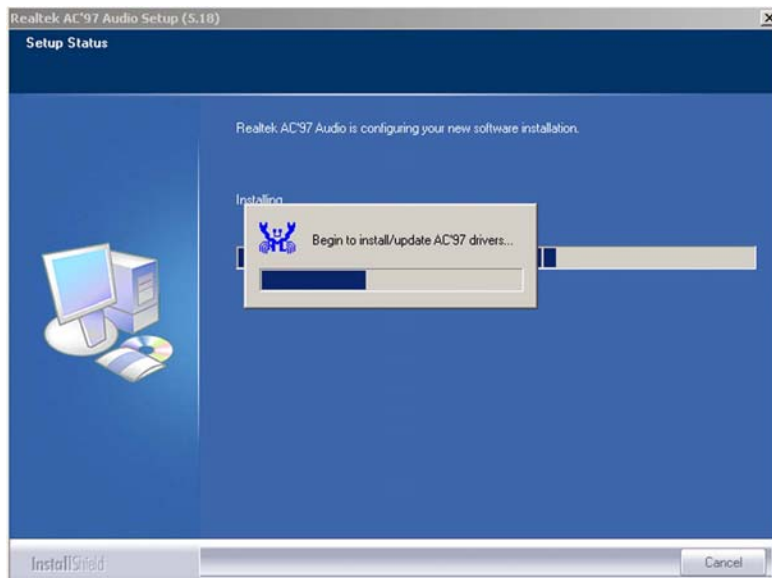

Figure 6-11: Audio Driver Installation Begins
Step 6: At this stage the clicking the “**YES**” button in **Figure 6-10** appears, the installation of the driver begins. See **Figure 6-11**.